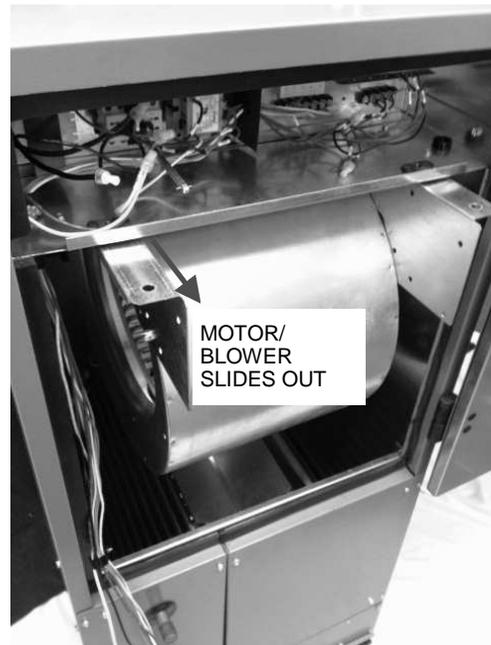

Figure 18
3. Remove motor/wheel assembly from the MMD unit by sliding out (Figure 18).